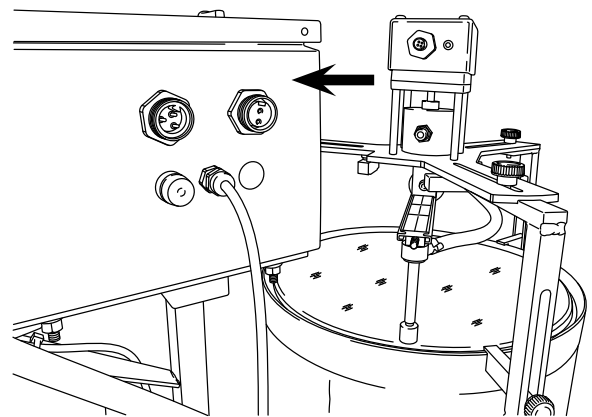

Figure 13
10. Position the fixture on top of the DPF with connecting receptacles pointing toward the control box. (Figure 13)